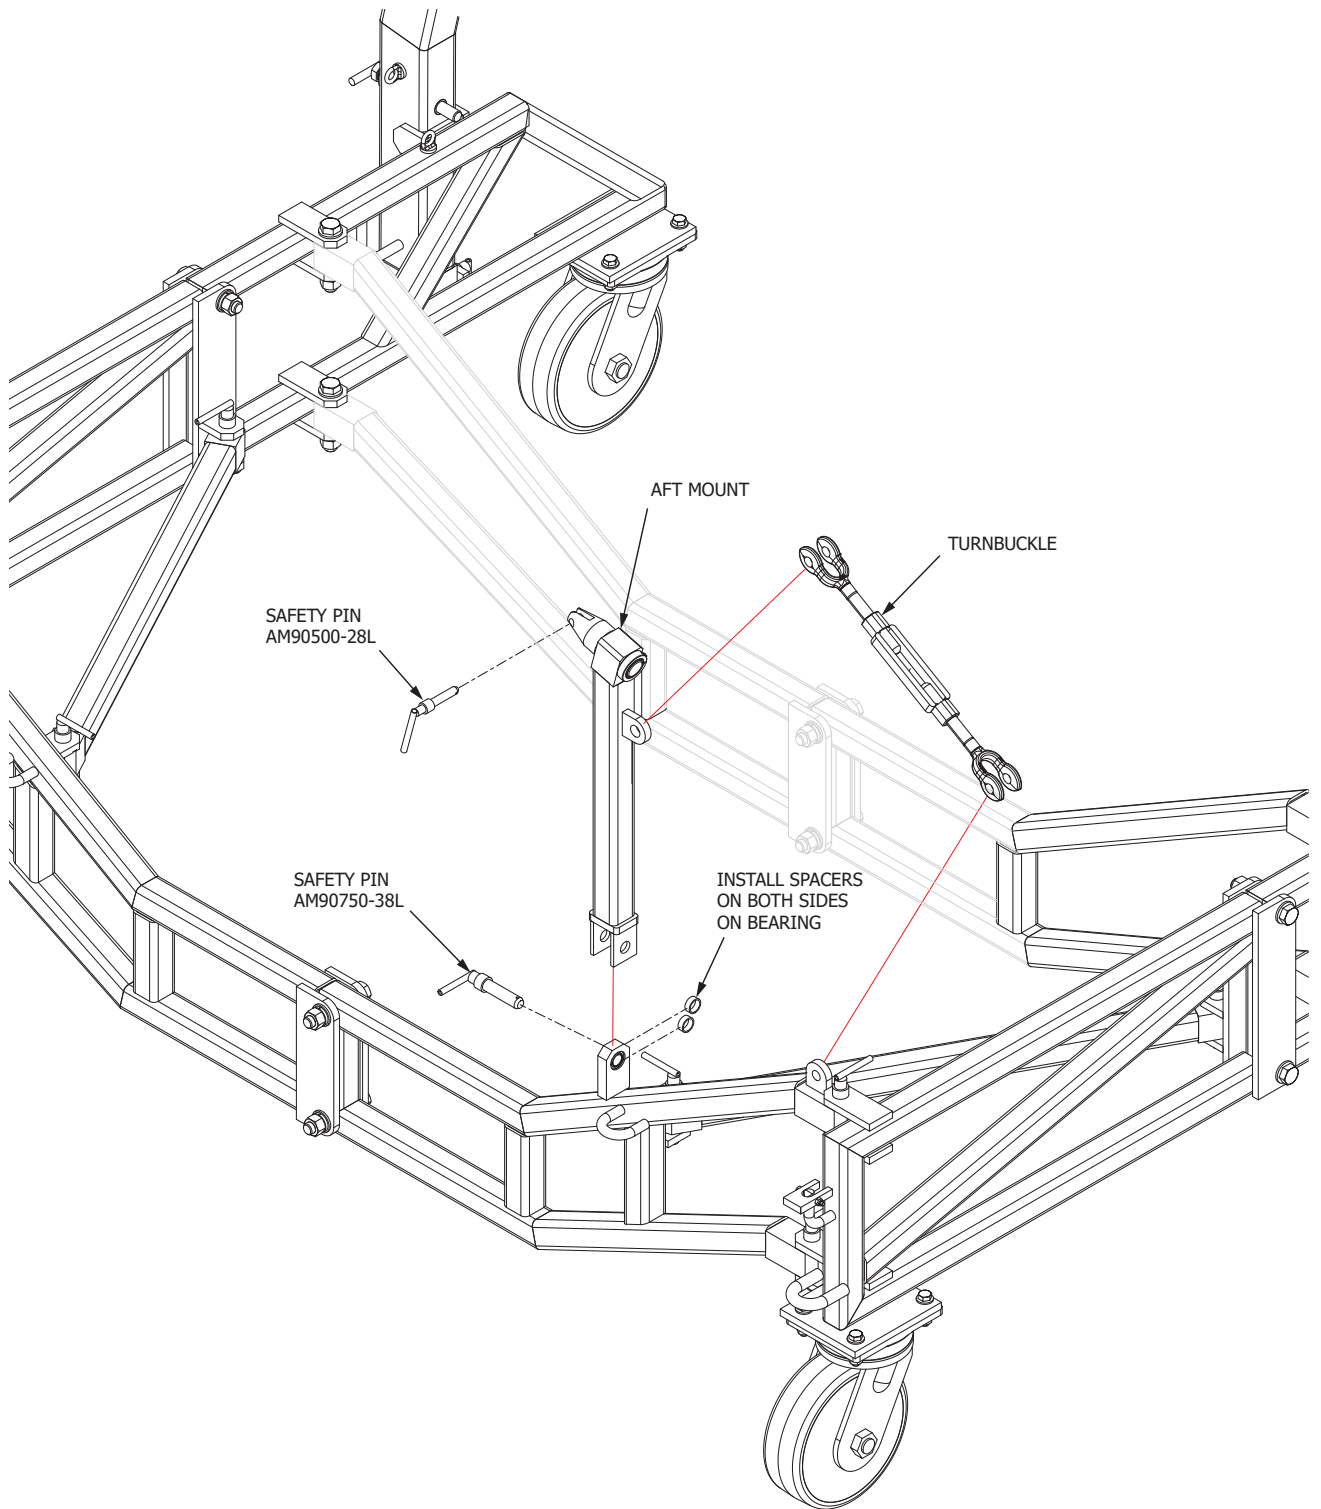

Figure 5.1-6. AFT Arm
- 10) Attach forward arms to left and right frame assemblies by installing safety pin through clevis and bottom of arm. Rotate forward arms inward and install bolt. Clip the safety chain to arm. See Figure 5.1-6.